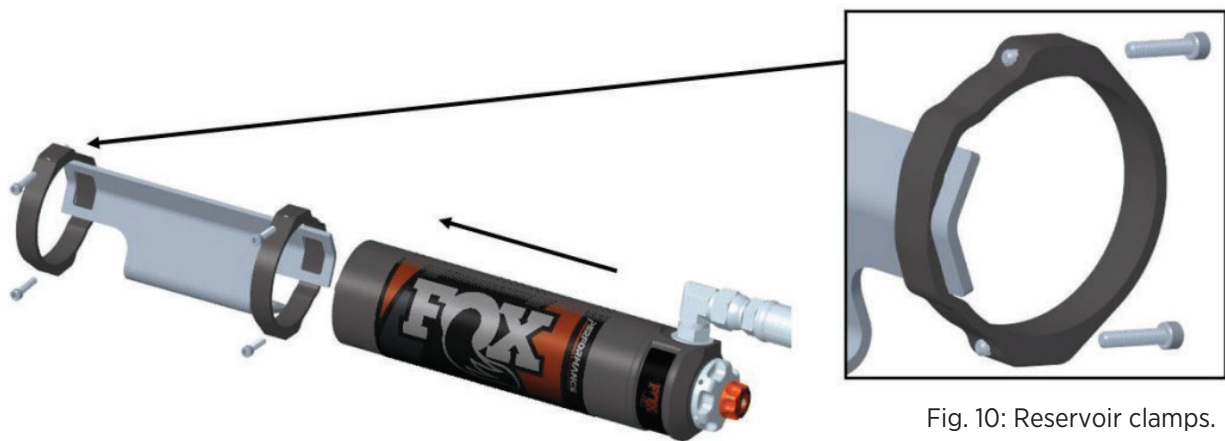

Fig. 10: Reservoir clamps.
4. Install the reservoir clamps as shown (Fig. 10). Leave the clamps loose for adjustment.